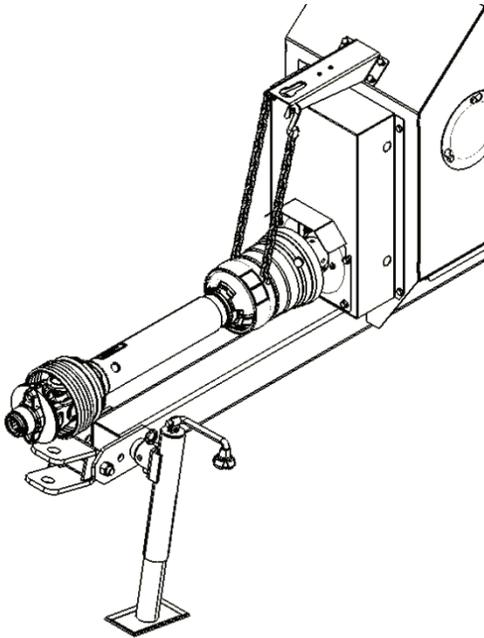

FIG 16-6
- 2) Locate the drive line (PTO) transport arm mount (FIG 16-6) the bracket to the intake feeder housing by using (4) 3/8" X 3/4" flange bolts and 3/4" flange nuts, see (FIG 16-8)